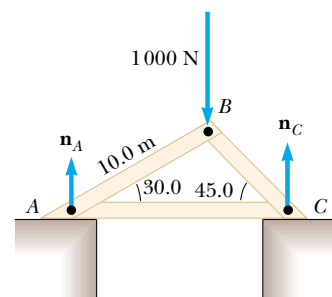

Figure P12.56
56. Figure P12.56 shows a truss that supports a downward force of 1 000 N applied at the point B . The truss has negligible weight. The piers at A and C are smooth. (a) Apply the conditions of equilibrium to prove that $n_A = 366$ N and $n_C = 634$ N. (b) Show that, because forces act on the light truss only at the hinge joints, each bar of the truss must exert on each hinge pin only a force along the length of that bar—a force of tension or compression. (c) Find the force of tension or of compression in each of the three bars.